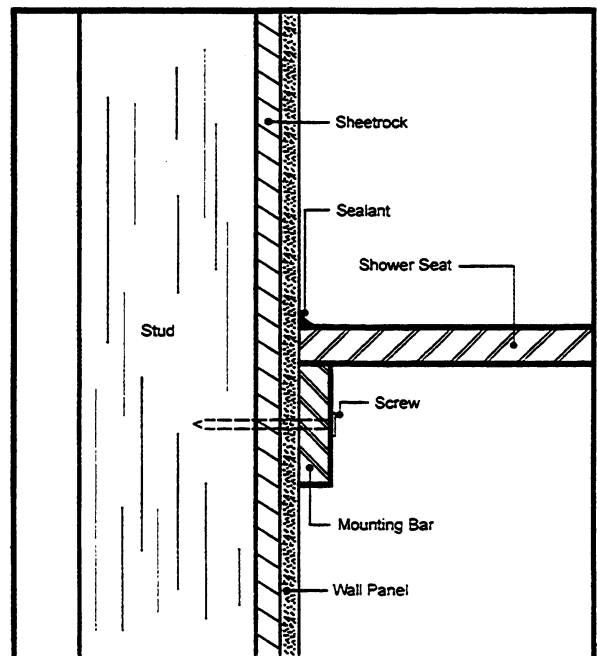

Fig. 3
- Step 4. Clean wall panels and rough side of mounting bars with foam type cleaner. Liberally apply Silicone Sealant to mounting bars and install snugly with 4 stainless steel screws provided. Apply Silicone Sealant to bonding areas of the seat and place seat into position (See Fig. 3). Apply weight to top of seat to hold in position.